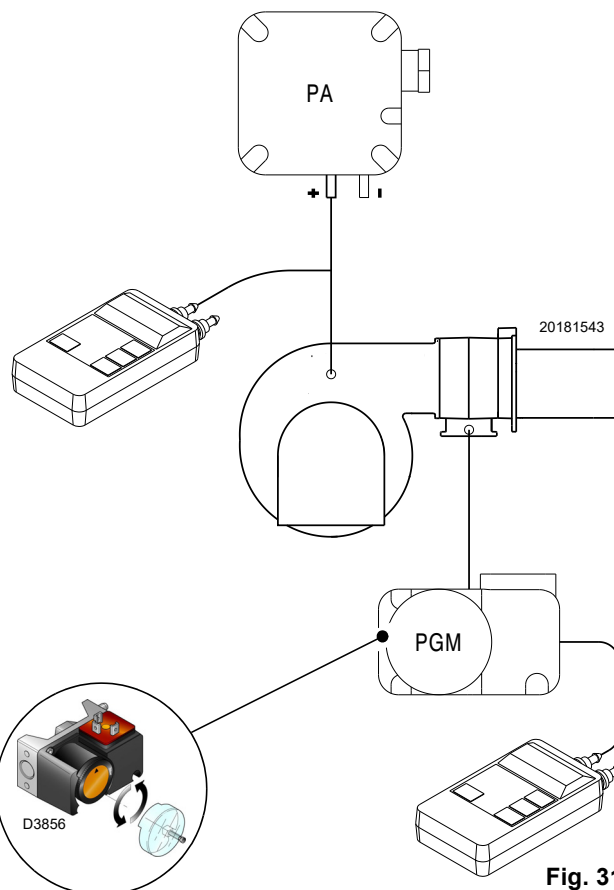

Fig. 31
- Adjust the maximum gas pressure switch (Fig. 31 on page 29) to the end of the scale.
Adjust the maximum gas pressure switch (Fig. 31) after making all other burner adjustments with the maximum gas pressure switch set to the end of the scale.